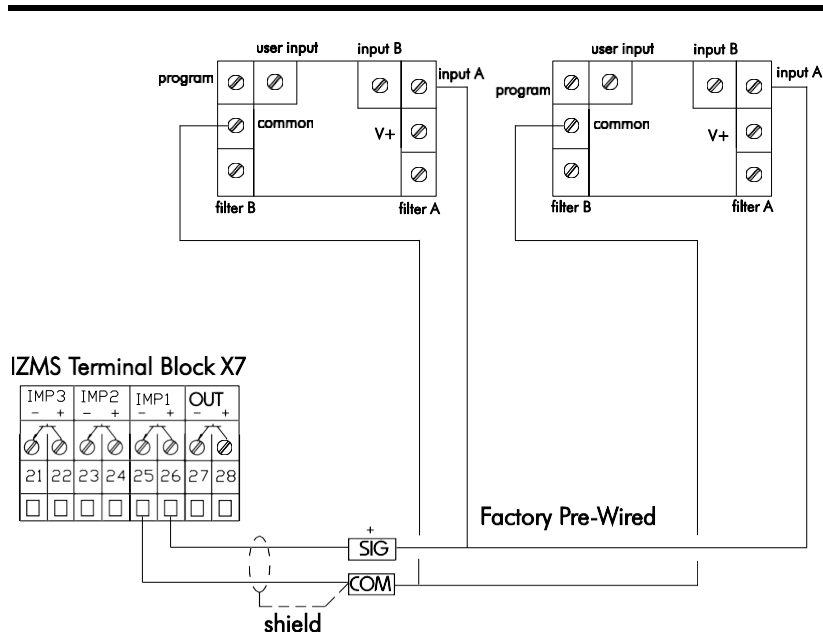

Figure 3-14. RT-50-2 Dual Rate/Total Indicator Signal Wiring Configuration
- P RT-50-2 Dual Rate/Total Indicator (Figure 3-14)